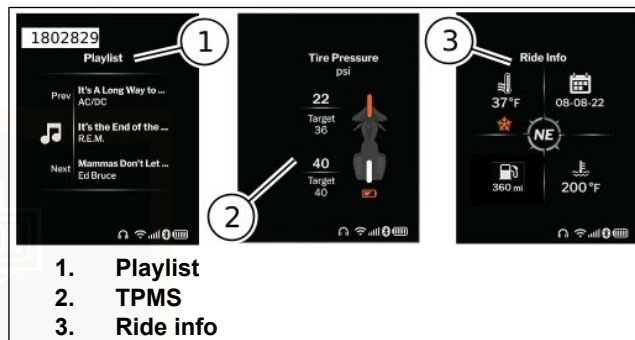

Figure 38. Widget Options
See Figure 38. **Playlist:** The Playlist widget (1) displays the current playlist information from a connected device. This information includes song title and artist name.